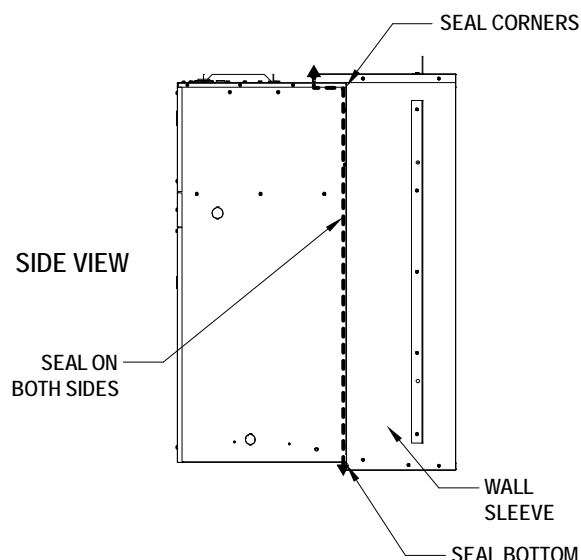

FIGURE 14 – Wall Sleeve Seal
2. Attach the bracket to the FIRST-PAK unit and the wall sleeve using the screws supplied with the wall sleeve. Refer to FIGURE 14 – below.
7. Inspect the sleeve seal, which is supplied with the sleeve, to ensure that it is properly secured and aligned (see FIGURE 14 – Wall Sleeve Seal).